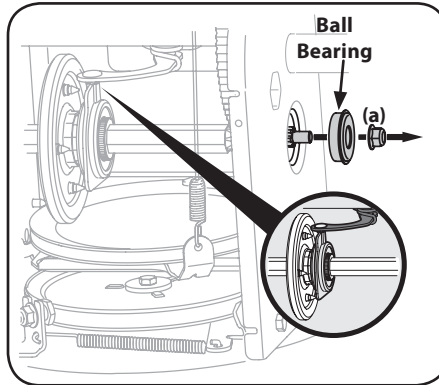

Figure 4-21
5. Carefully remove hex nut (a) which secures hex shaft to equipment frame and lightly tap the shaft's end to dislodge ball bearing from right side of frame. See Figure 4-21.
NOTE: Make sure shift lever pin is in place in bearing housing. See Figure 4-21 inset.